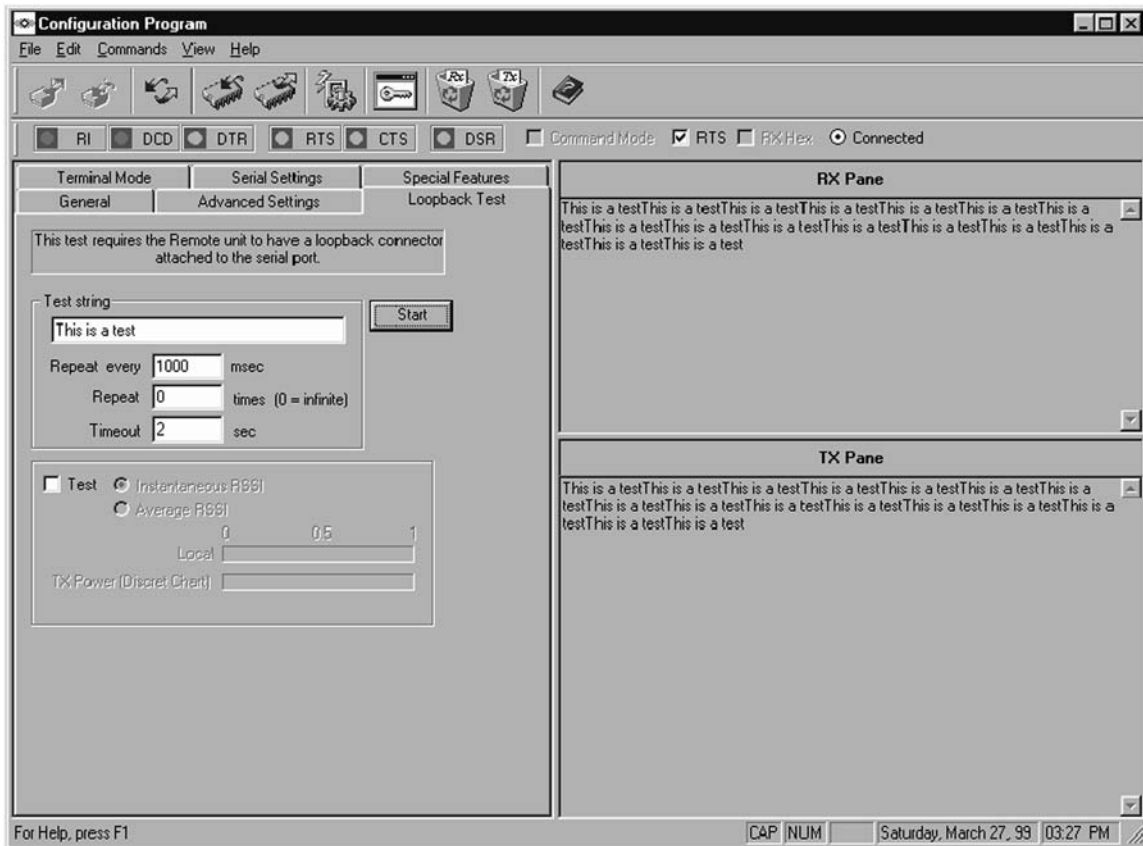

Fig. 18 — RX Configuration Window
1. Open the Configuration Program. See Fig. 18.